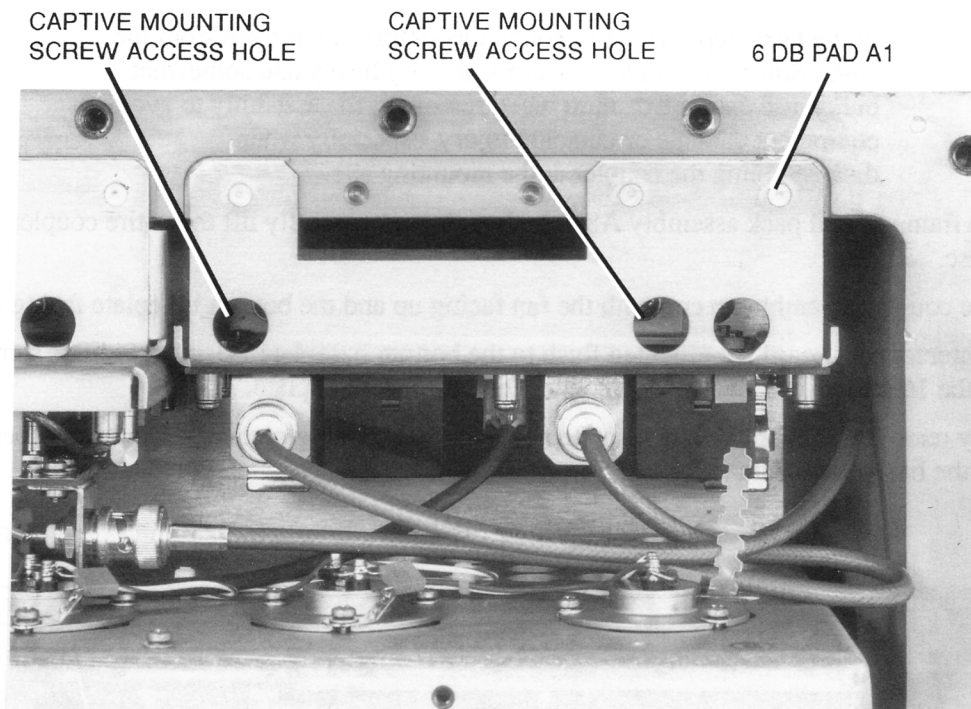

Figure 5-4. Six dB Pad A1 Removal
5.5.5 Six DB Pad A1 Removal (See figure 5-4)